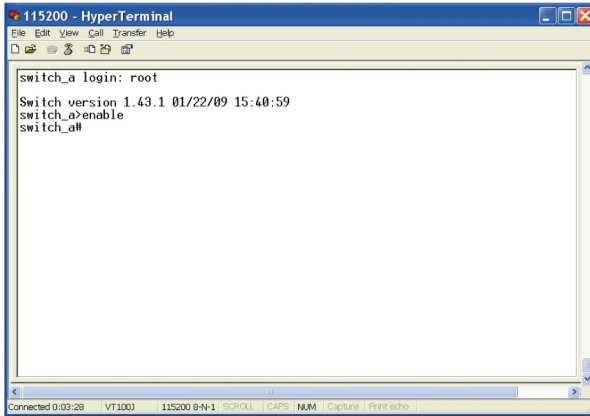

Figure QS-2. switch_a> prompt.
3. Press the Enter key. The Command Line Interface (CLI) screen should appear as shown in Figure QS-2.
4. Log on to Exec Mode (View Mode): At the "switch_a login:" prompt, type "root" and press "Enter" to log on to Exec Mode (or View Mode). The "switch_a>" prompt will show on the screen. See Figure QS-2.